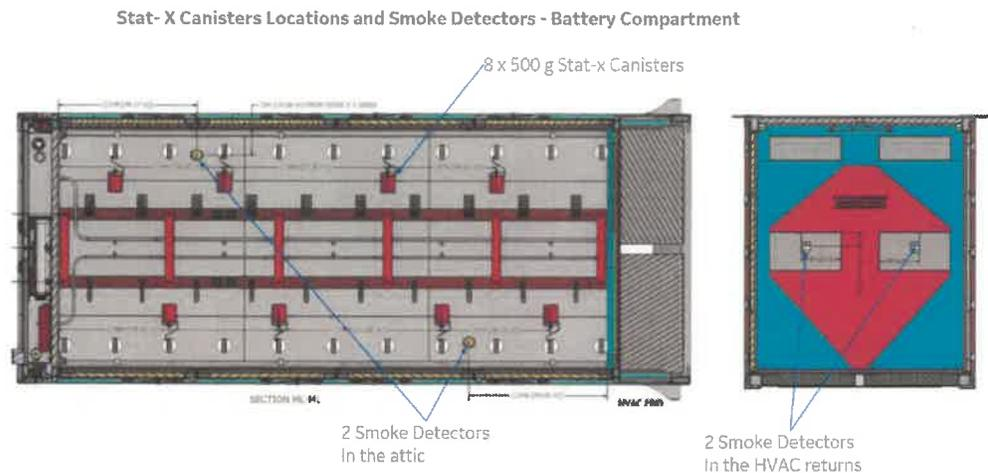

Figure 13: Fire Suppression Clean Agent Details
The Figure 13 above illustrates the general layout of the FSS components in an RSU battery compartment. Each RSU will be provided with two (2) detection zones: